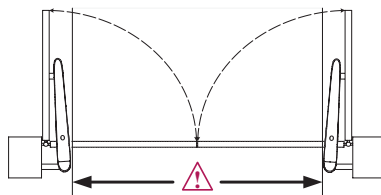

Figure 7. Drive-through width for a gate opening outwards
- note that, for a gate opening outwards, the drive-through width may be reduced due to the drives overhanging into the drive-through area (fig. 7).